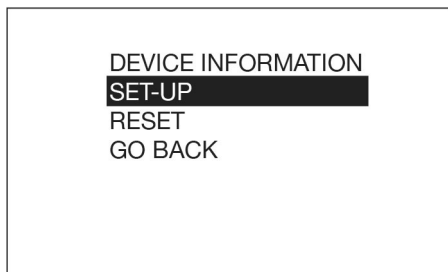

FIG. 12
3. Select the SET-UP option (Fig. 12).